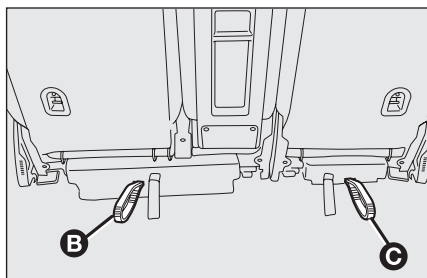

fig. 111
The rear seat is split. The rear seats can be moved forwards and backwards from the boot by means of the handles **B** or **C**-fig. 111; pull the handle and move the seats forward at the same time. This operation is useful for increasing the boot capacity.
- ☐ make sure that the seats are all back using the handles **B** or **C**-fig. 111;